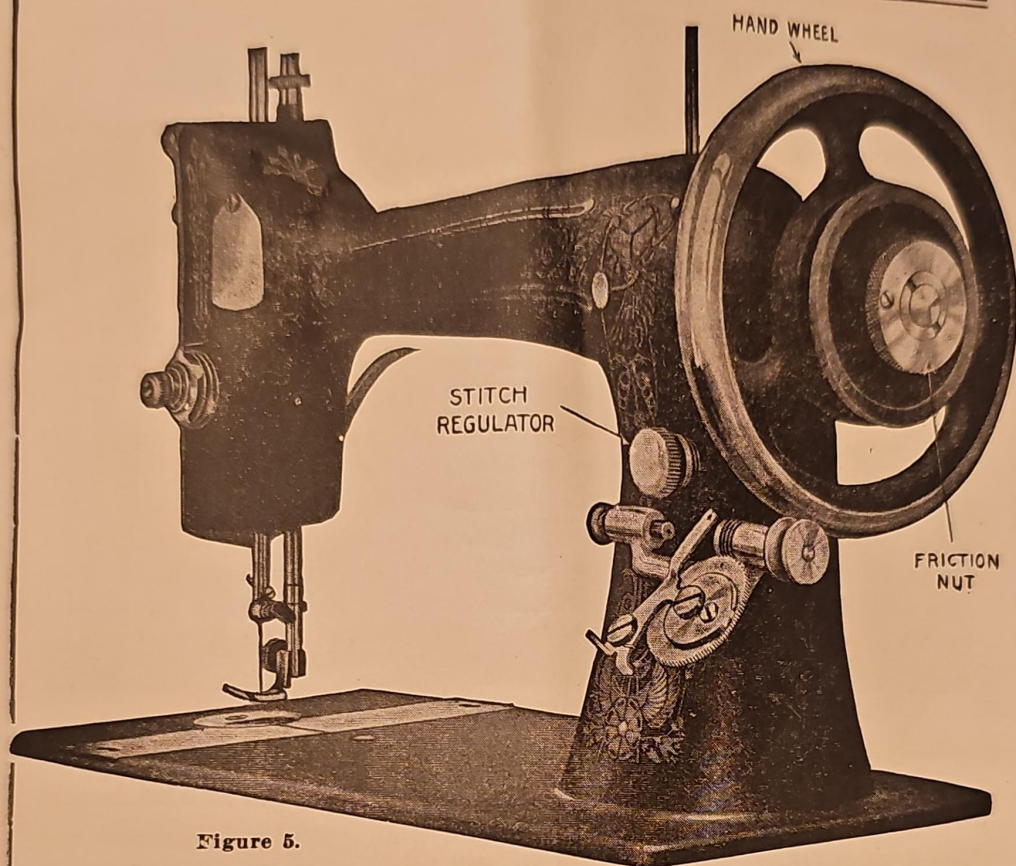

Figure 5.
**TO ALTER THE LENGTH OF STITCH.** On the side of the arm near the bobbin winder is a large thumbscrew called the stitch regulator. (See Figure 5, page 8.) Turn it to the right toward the hand wheel to make the stitch longer, and to the left toward the needle to make the stitch shorter.